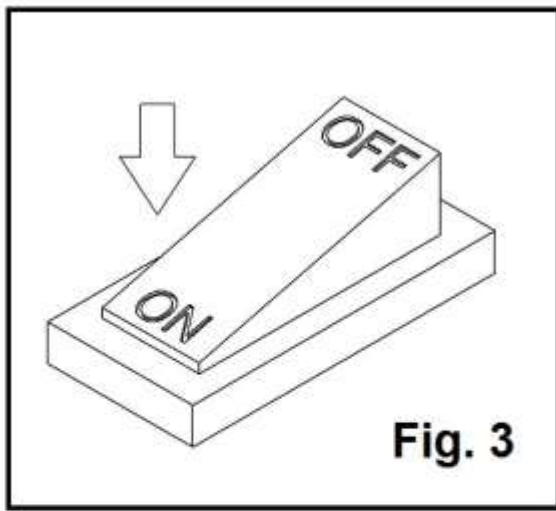

Fig. 3
1. Switch the ON/OFF switch (Fig 3) to the “ON” position.